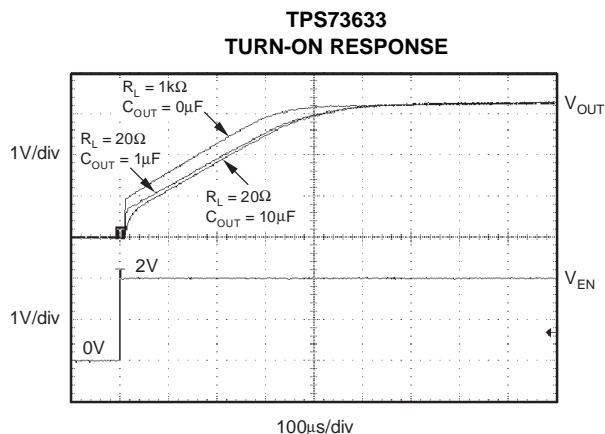

Figure 23.
The enable pin (EN) is active high and is compatible with standard TTL-CMOS levels. A VEN below 0.5V (max) turns the regulator off and drops the GND pin current to approximately 10nA. When EN is used to shutdown the regulator, all charge is removed from the pass transistor gate, and the output ramps back up to a regulated VOUT (see Figure 23).